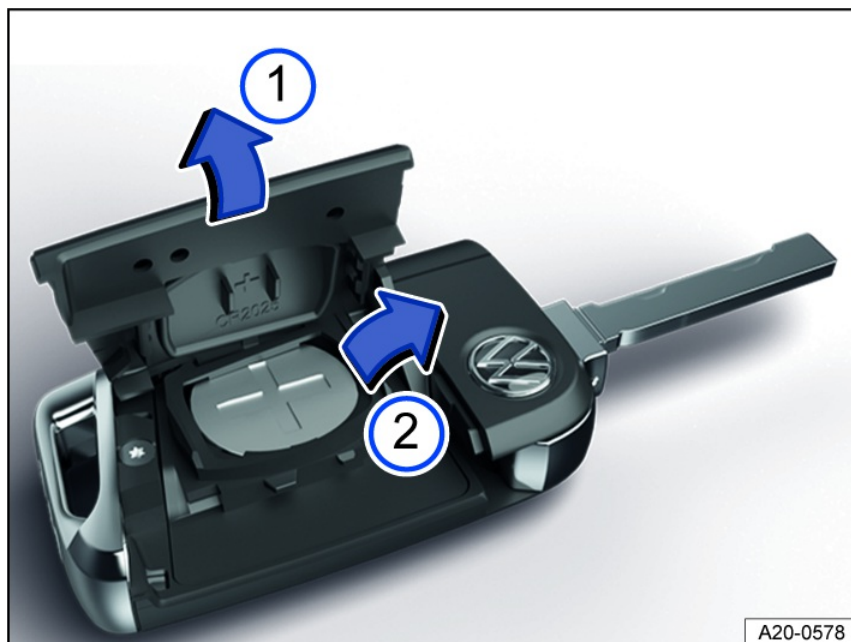

Fig. 49 Vehicle key: Replacing the button cell battery (general example).
- ① Cover
- ② Button cell battery
2. Lever off the cover fig. 49.
3. Lift the button cell battery out of the battery compartment fig. 49, ⇒ ⚠.
5. Press the cover out of the housing fig. 49, ⇒ ⓘ.